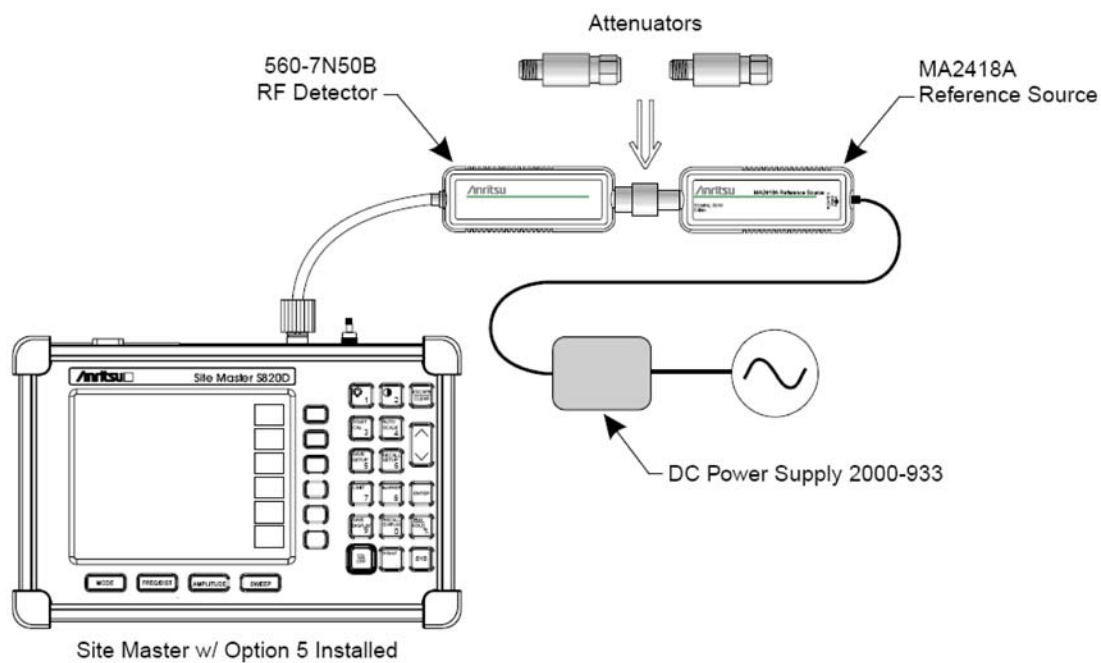

Figure 2-5. Power Monitor Verification Setup
- For Power Monitor Setup, see Figure 2-5, “Power Monitor Verification Setup” on page 2-6.
4. Press the **MODE (9)** key.
9. Connect the output of the MA2418A Reference Source to the two attenuators so as to add 40 dB of attenuation (see Figure 2-5, “Power Monitor Verification Setup” on page 2-6).